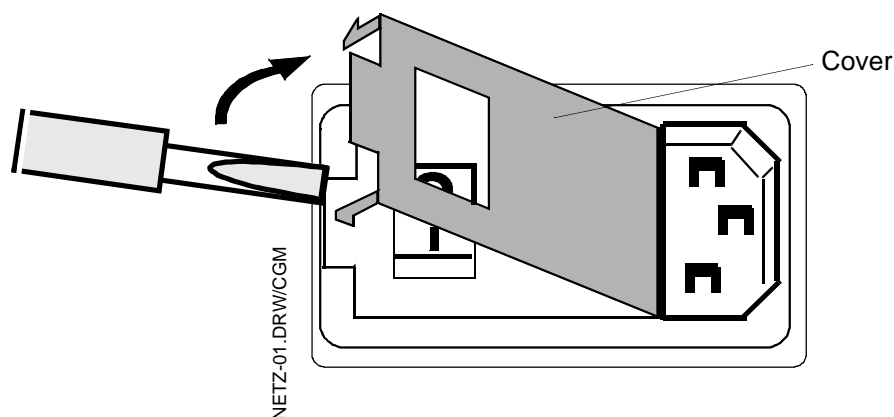

Fig. 8-2 Opening the fuse cover
1. Open the fuse cover using a small screwdriver (see Fig. 8-2 on page 8-2).